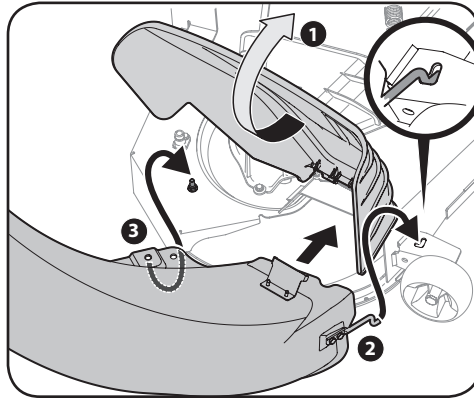

Figure 4-24
- Raise the chute deflector (1 in Figure 4-24) on the deck and hold it while you position the discharge chute over the chute opening.
- Insert the end of the discharge chute elbow (2) into the hole provided in the deck wheel mount as shown in the inset of Figure 4-24.
- Pivot the discharge chute rearward until the hole in the discharge chute elbow aligns with the pin on the deck. Move the discharge elbow down onto that pin as shown in 3 of Figure 4-24.